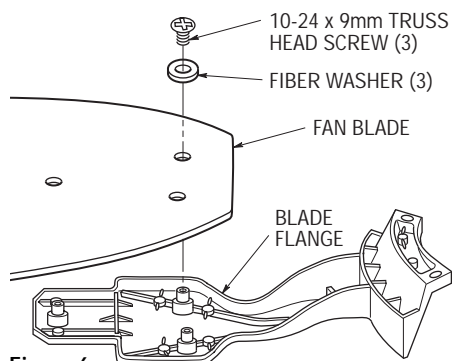

Figure 6
- 7. Mount the fan blades to the blade flanges using three 10-24 x 9mm truss head screws and three fiber washers (supplied) (Figure 6).